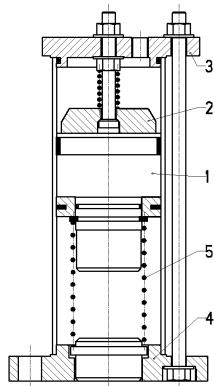

Figure 1
The Pneumatic Knocker achieves a high grade of impact energy by the spontaneous release of the accumulated compressed air. **Figure 1** shows the structure of the knocker. The percussion piston (1) is a permanent magnet adhere in its starting-position to the anchor plate (2) until the compressed air fed in through the lid (3) overcomes the magnetic force. The impact piston (1) loosens from the anchor plate (2), is very highly speeded by the accumulated compressed air and hits onto the striker (4) with a speed = 6 – 7 m/s, which transmits the impact to the silo wall. If the knocker is ventilated, then the spring (5) pressed back the impact piston (1) into the starting position.